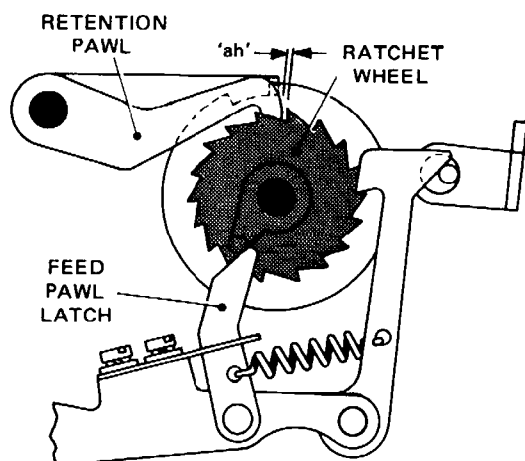

Fig. 4.34 FEED PAWL LATCH MECHANISM (REAR VIEW)
- 37.1 Remove the answer-back ward drum. Depress the HERE IS key and turn the ratchet wheel, Fig. 4.34, by hand until the retention pawl drops into the nineteenth tooth. Turn the camshaft slowly until the next feed action has taken place and check that the feed pawl latch
- 37.3 Check that the gap between the retention pawl and a tooth on the ratchet wheel (dimension 'ah' of Fig. 4.34) is 0.003–0.007 inch.